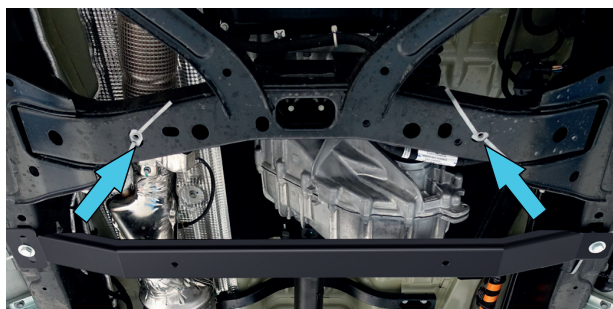

Fig. 5
3. Install M10 insert nuts(item F) as shown in fig.5,6. If RIVAL transmission skid plate is installed, loosen rear most bolts.